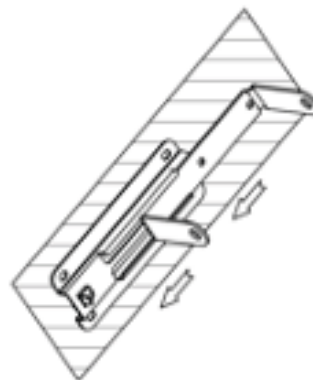

Fig 3
5. Slip the reel to the mounting bracket, then fasten it by screw. See Fig.3